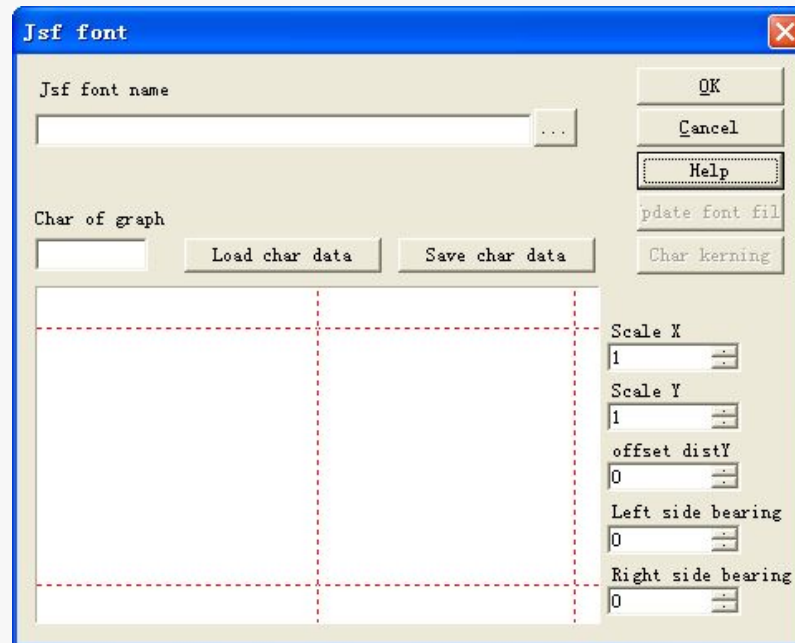

Fig 5-17 JSF font
When the user click JSF font, system will show a dialogue as figure 5-17.
Click "Modify" "JSF Fonts", then shown a font dialogue box as figure 5-17. Click button , and find ezcad2\font catalogue in the dialogue, input "EZCAD0521", and then click the button to indicate dialogue as the follow figure 5-23 .
1. Click "JSF fonts" under "modify" menu, then shown the JSF font dialogue, as the figure 5-17->Click , open the dialogue to find the route: ezcad2\font->Input "EZCAD0521"-- Click the button.